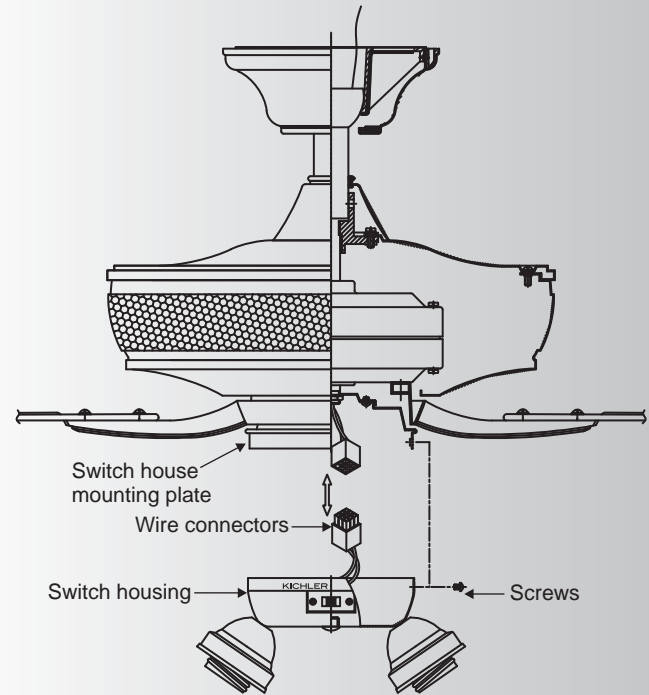

Fig. 18
1. While holding the switch housing assembly under your ceiling fan, push the square wire connectors together. One from the fan and one from the light fixture. (Fig.18)
Attach the switch housing assembly to the switch house mounting plate with the screws provided. Make sure each screw is tight. (Fig. 18)